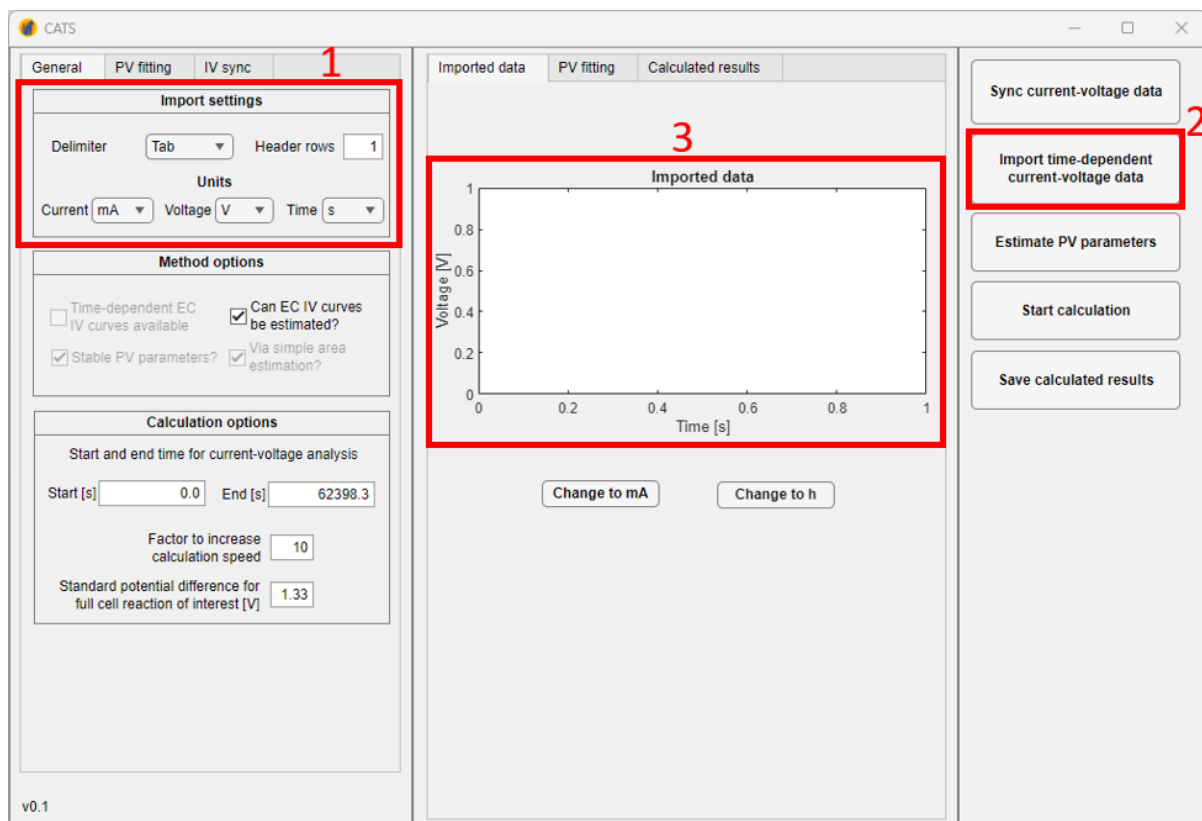

Figure 3. Import synchronized current-voltage data
1. Choose import settings (**Figure 3**).